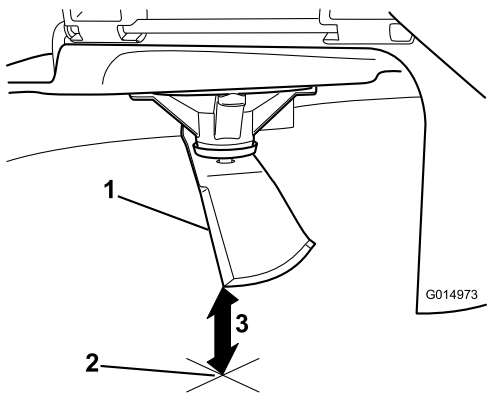

**Figure 64**
4. Rotate the same blade 180 degrees so that the opposing cutting edge is now in the same position (Figure 64).